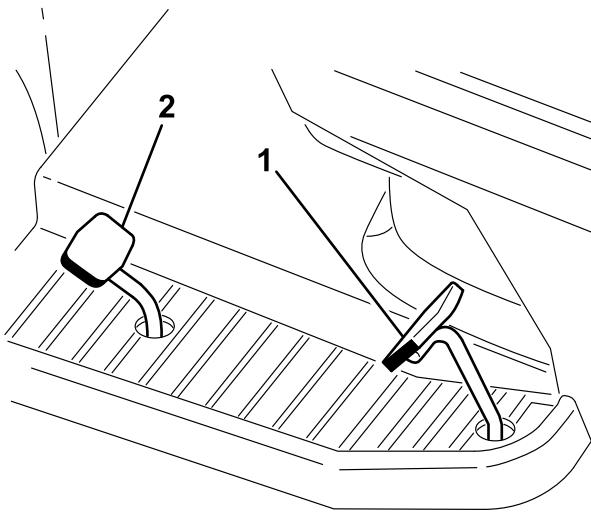

Figure 16
- Place your foot on the traction control pedal and slowly press on the pedal to move forward (Figure 16).
2. Place your foot on the reverse speed pedal and slowly press on the pedal to move backward (Figure 16).